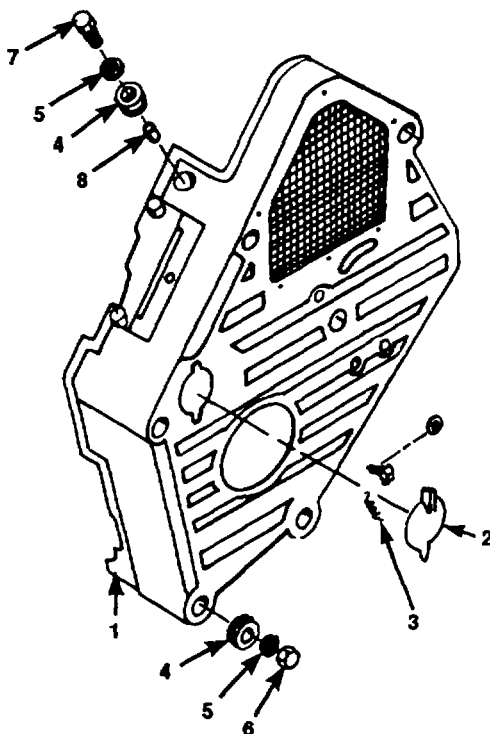

Figure 3-36. V-Belt Guard
Check for visible signs of damage, missing hardware, grommets, and washers. Inspect hand crank cover (2) and spring (3, figure 3-36) for proper operation.
- a. To remove guard (1, figure 3-36) from engine, remove the five cap nuts (6) and washers (5) on the front of the guard. Remove bolt (7), washer (5), and spacer (8).